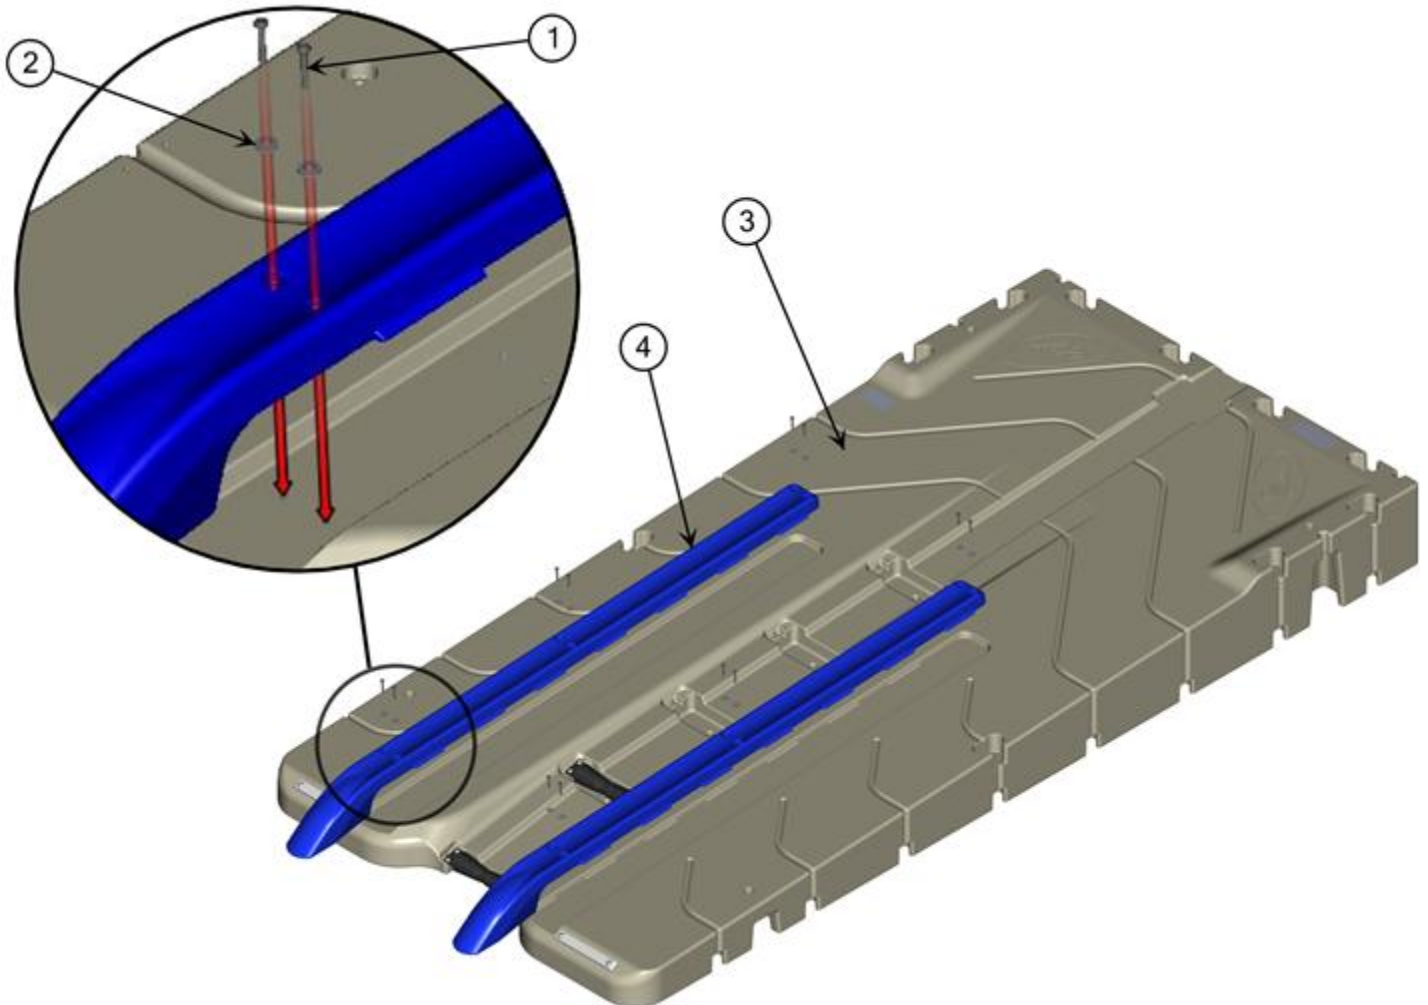

Figure 22.
1. Place the long entry bunks (Item 4) in recessed areas on the EZ BoatPort (Item 3) (Figure 22). Each bunk is symmetrical and has tabs on each side. First, these tabs should be inserted in the tab pockets on the port, then rotate the bunk down towards the port.
2. Secure each long bunk with two (2) washers (Item 2) and two (2) bolts (Item 1) in the slotted holes located at the middle of the bunk.
3. Secure the bunk with the remaining four (4) washers and bolts in the slotted holes located at each end of the bunk.